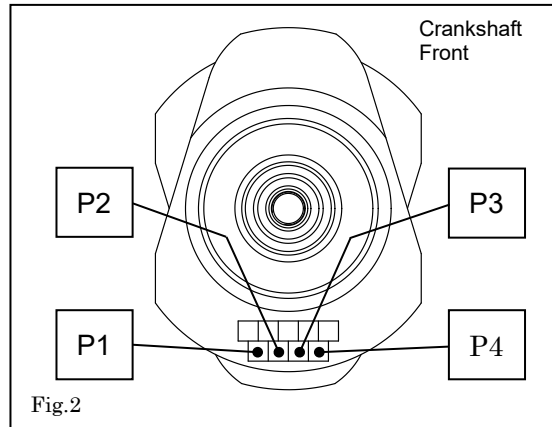

Fig.2
3.3 Confirm the outer diameter of the Crankshaft Pin. (See figure 2.)
3.4 Refer to Figure 2 when checking the classification code.